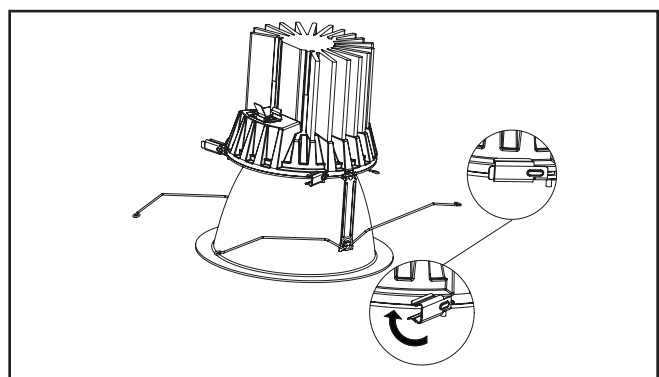

Figure 6
4. Rotate side clips (3) into place to securely attach trim assembly to LED engine (Figure 6.).